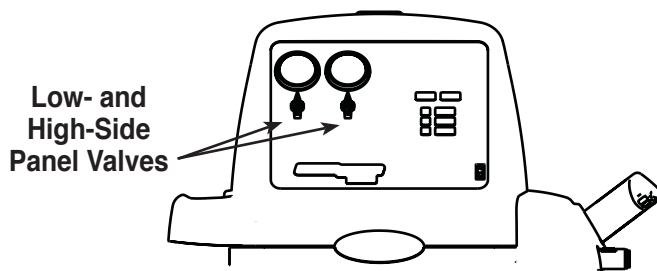

Figure 4
3. Open the source tank valve and the low-side panel valve. See Figure 4.